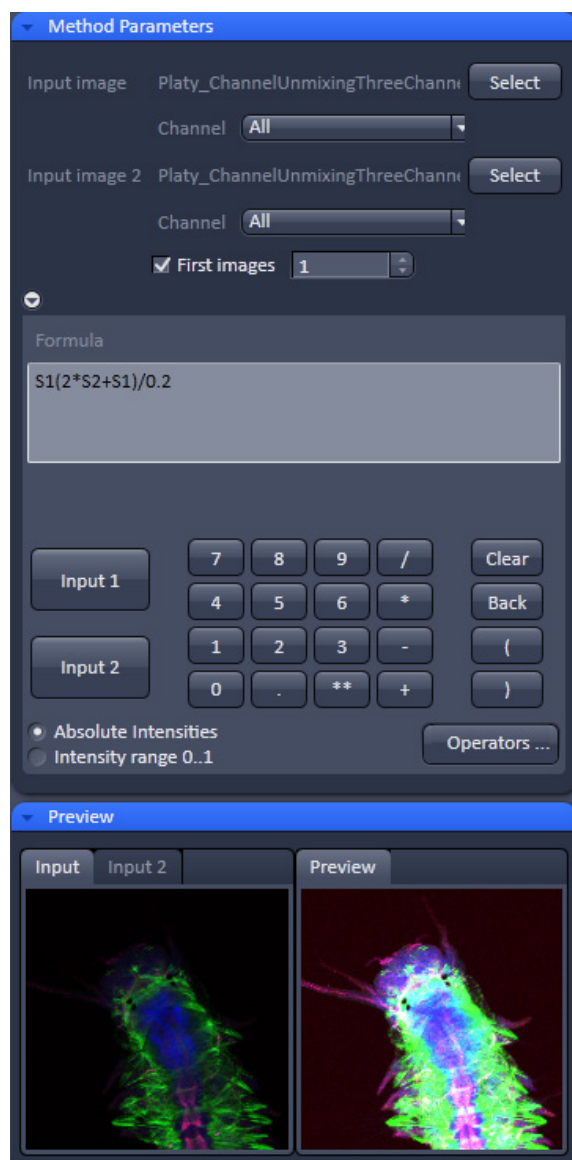

Fig. 109 The Image Calculator window
- Click on the triangle buttons to show or hide the **Method Parameters** and **Preview** panels (Fig. 109) of the function.
After loading 2 input (source) images and specifying the input channels, the calculator keyboard allows the definition of an operator or a combination of operators which is represented by a formula in the formula display. The operators will be inserted into the formula at the cursor position. The formula can also be typed in directly. For an overview of the available more advanced operators, please refer to the formula panel that is shown in a pop-up window after clicking the **Operators ...** button (Fig. 109).